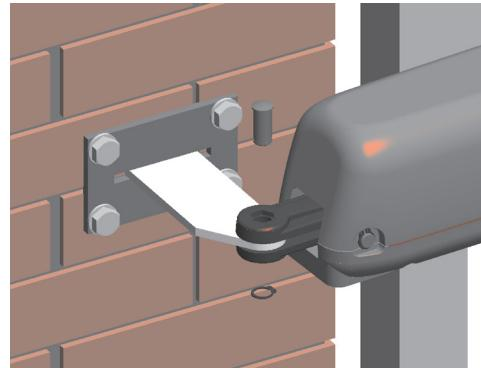

Fig. 11
- Fix the operator to the rear bracket by means of the supplied pins as shown in Fig. 11.